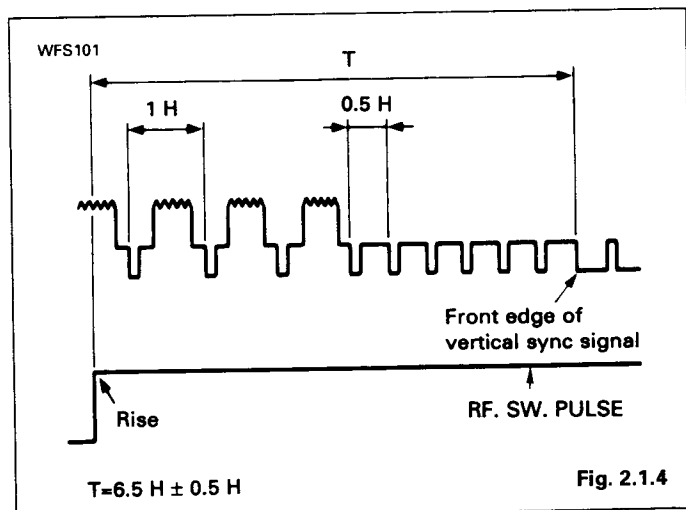

Fig. 2.1.4
2. Adjust VR351 (SW-P) so that the width "T" becomes 6.5 H ± 0.5 H as shown in Fig. 2.1.4.